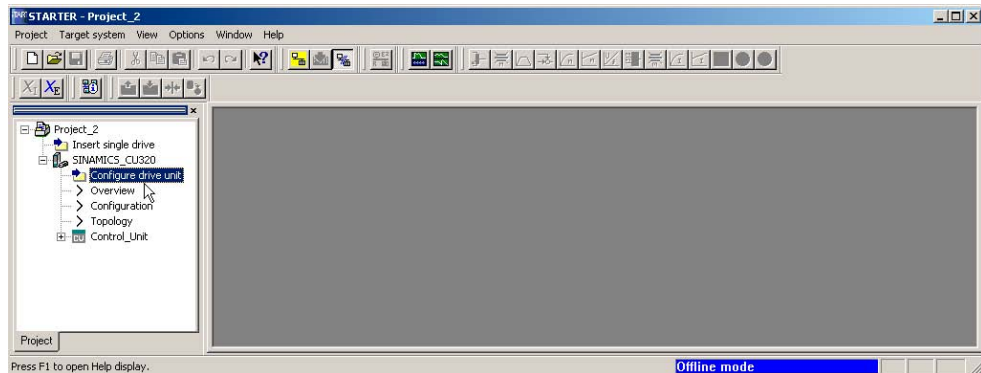

Fig. 3-14 STARTER project navigator “Project_2”
As you can see in Fig. 3-14, the project Wizard has created **Project_2**, drive unit **SINAMICS_CU320**, and a **Control_Unit** in the project navigator.
1. In the project navigator, open the **SINAMICS_CU320** directory and double-click the element **Configure drive unit** (see Fig. 3-14).